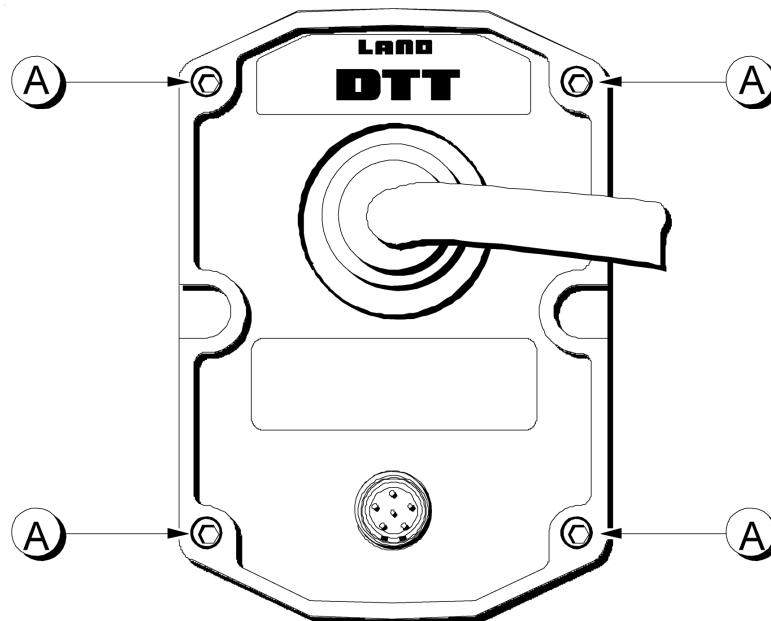

Fig. 4 - Location of Thermometer Cover Securing Screws
- 1) Refer to Fig. 4. Use the 2.5mm Hex screw driver to loosen the four captive screws (A).
- 2) Refer to Fig. 4. Tighten the four captive screws (A) using the 2.5mm Hex screw driver.